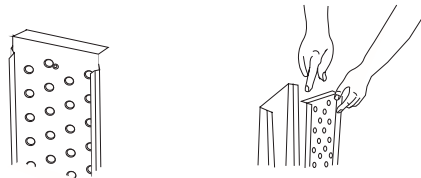

Figure 4-14. Inner Plate Reassembly Details
1. Reassemble the inner plate into the finger manifold (Figure 4-14). Keep your fingers clear to avoid pinching them.